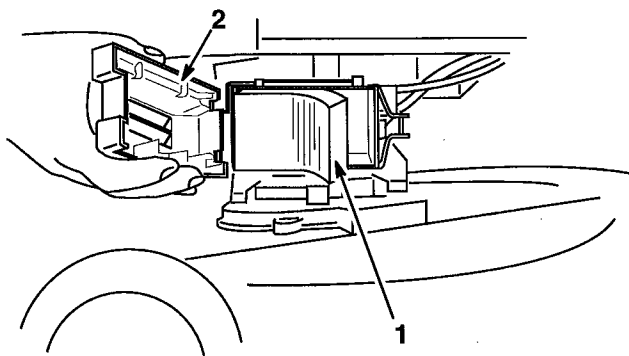

Figure 19
1. To remove air filter, snap cover latch open, swing to side and unhook (Fig. 19).